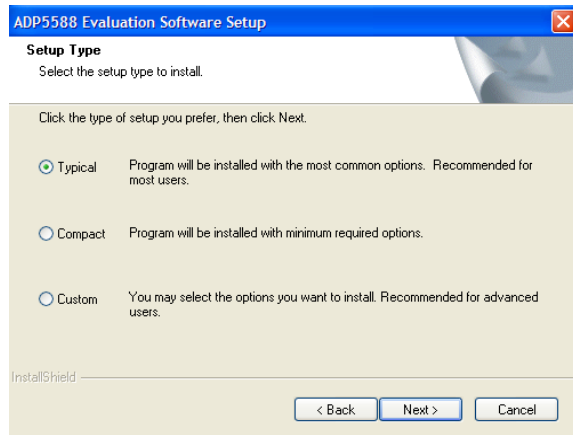

Figure 7. Setup Type
4. When the screen in Figure 7 appears, click **Next >** to continue with installation.